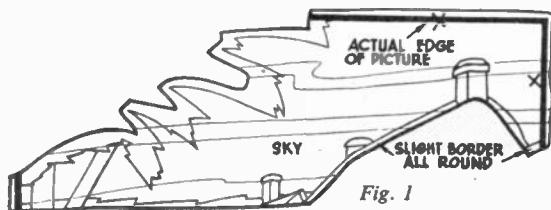

Fig. 1
In applying the veneers, make a start on the central picture. Choose your wood for the sky in the top right-hand corner, and transfer its shape from the design sheet on to the veneer, allowing $\frac{1}{4}$ in. overlap all round as shown in Fig. 1. The lines marked (X) show the eventual outline. After cutting, fix the veneer in position on the baseboard. To do this, rub some balsa cement on to the back, smooth down and allow